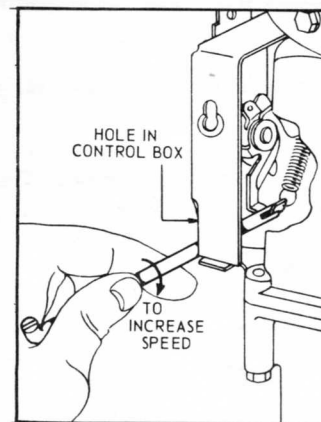
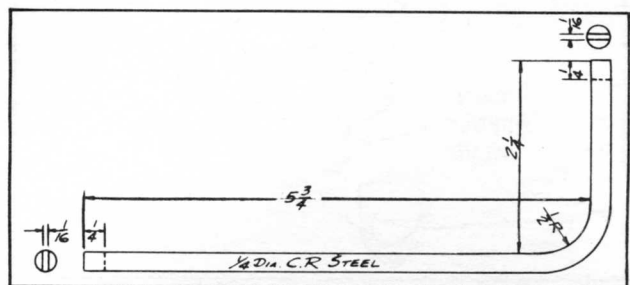

FIGURE 4-3
FIGURE 4-4
- c. See figure 4-3. Use the tool as shown in figure 4-4 or tool No. 19229 to bend the spring tab to get the needed speed.